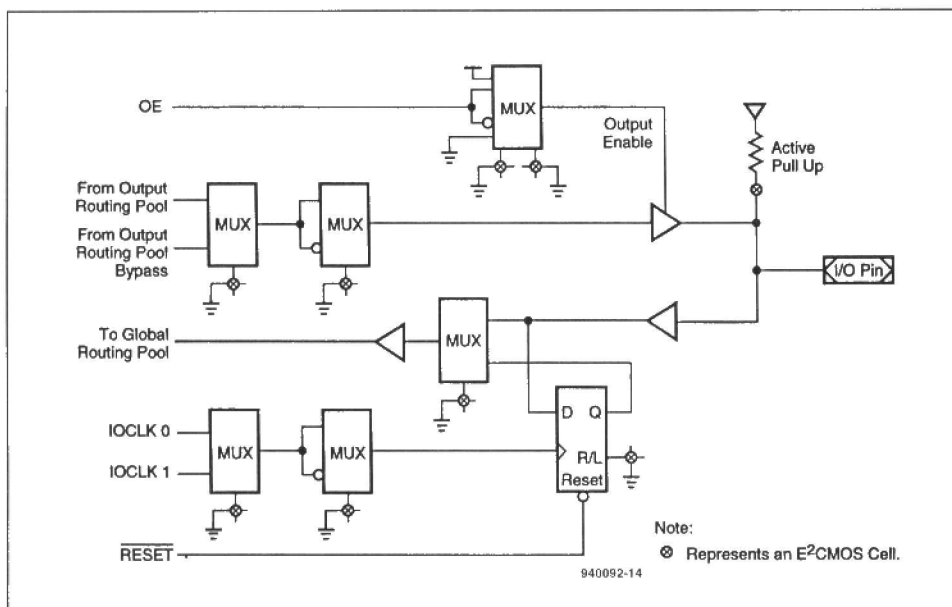

Fig. 4. Structure of an I/O cell. The functions of both the input and the output are fully programmable.
All ispLSI devices have a number of I/O connections which are user-configurable. These connections are linked to I/O cells which may be set up as bistables or latches, as illustrated in Fig. 4. The polarity of the output enable (OE) signal may be inverted with the aid of the internal multiplexer. The signal used to create the OE signal can be furnished by the ORP in two ways. For fast, time-critical applications, the ORP signal is available 'via bypass'. The diagram in Fig. 4 also shows that each I/O cell offers a choice between a bistable (register) or a latch function at its input. One of these options is selected with the aid of the R/L (register/latch) signal. After the intermediate storage function, the input signal goes directly to the GRP. For combinational logic inputs, the storage function can be disabled via a multiplexer.